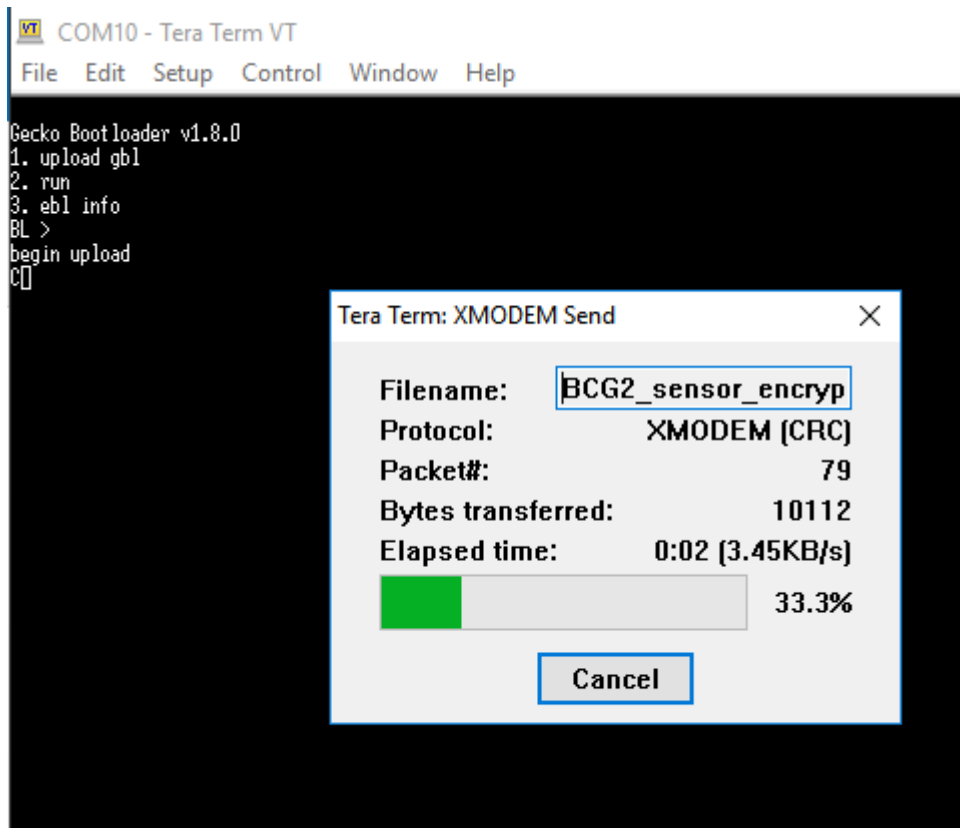

Figure 5 Tera Term XMODEM Send
4. Connect to the COM port that your USB-UART bridge occupies, and set Serial connection settings ("Setup->Serial port...") to the ones displayed on figure 5.
6. If no menu text appeared on Tera Term, send command "3" by pressing 3 on keyboard while on Tera Term window (see text on figure 5).